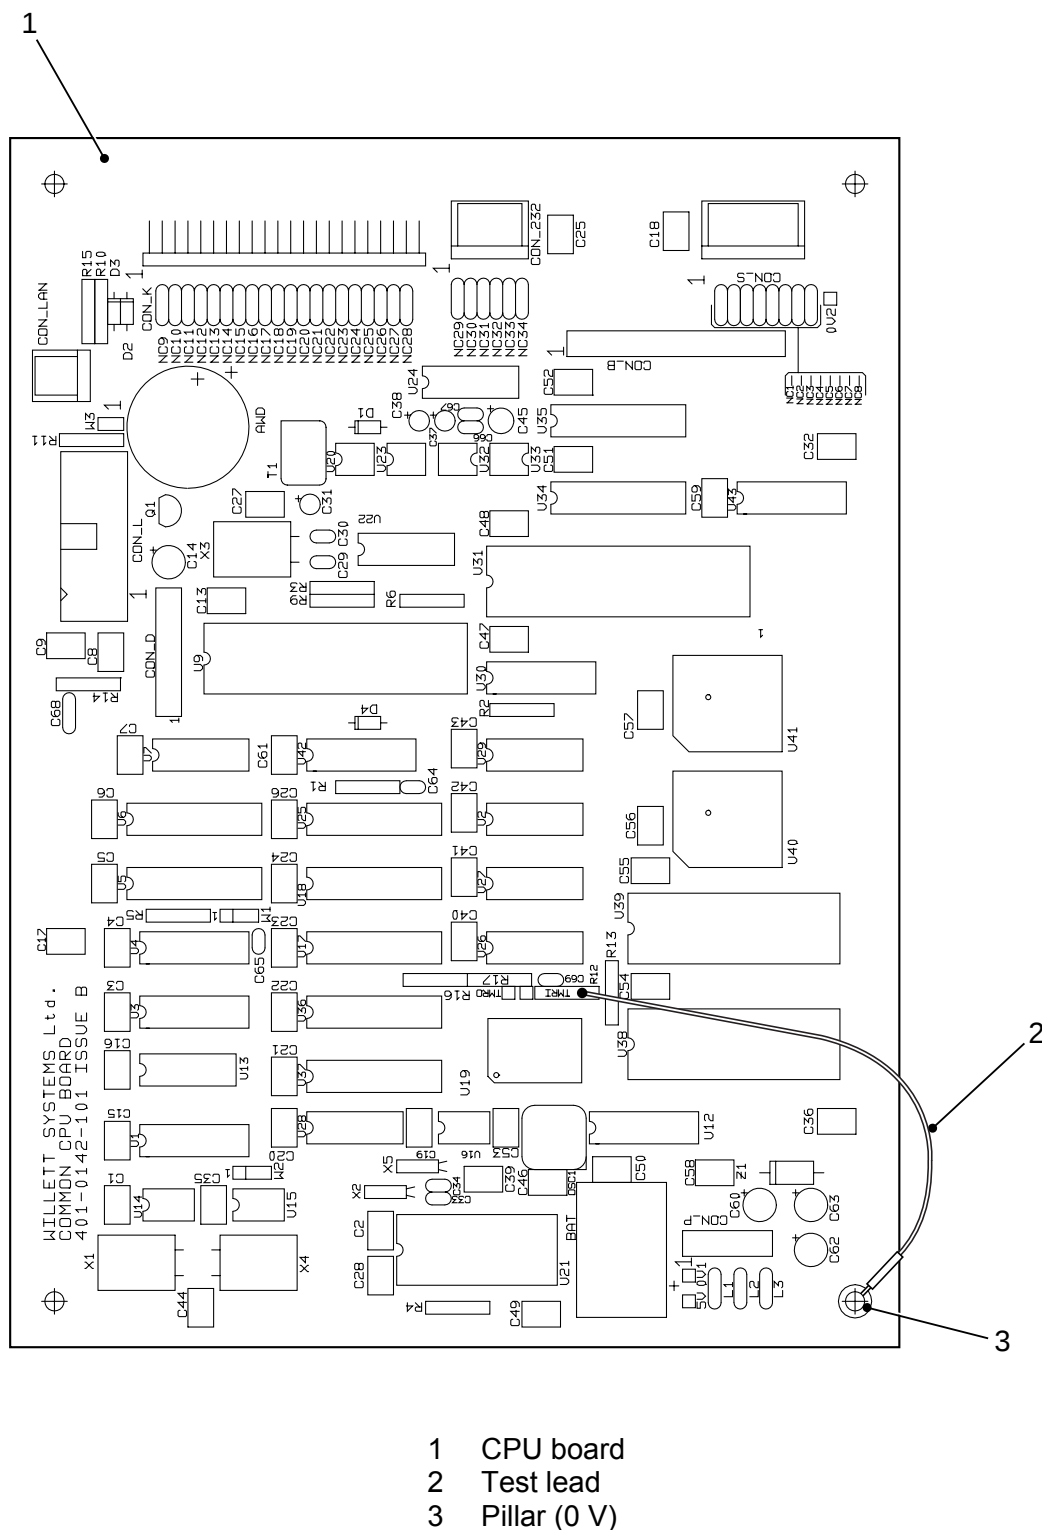

Fig 9.14 Connection of TMR1 to chassis
71.2 Remove the I/O board to allow access to the CPU (Fig 9.14).
Refer to Fig 9.14. TMR1 is the test point closest to R12.